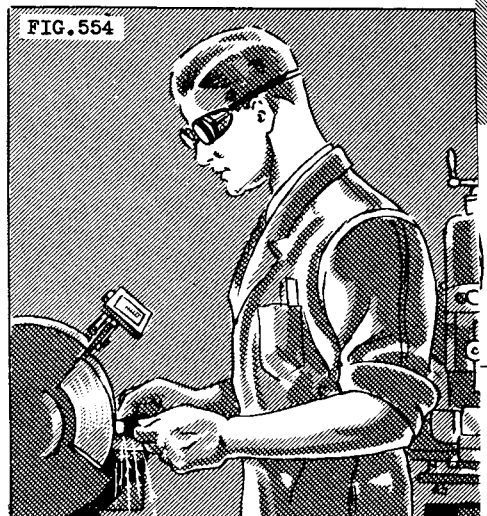

FIG. 554
4. Use coveralls or a shop coat to keep the dust from the clothing (Fig. 554). (Exhaust outlets are provided on the newer bench and floor grinders; this indicates that the use of exhaust systems for all types of grinding is steadily becoming standard practice.) If